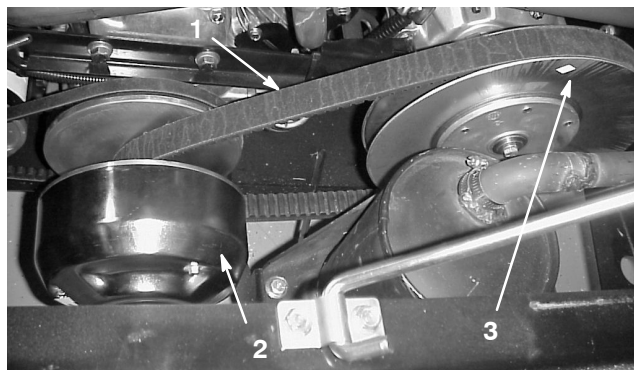

Figure 36
1. Rotate and route the belt over the secondary clutch (Fig. 36).
2. Remove the belt from the primary clutch (Fig. 36).